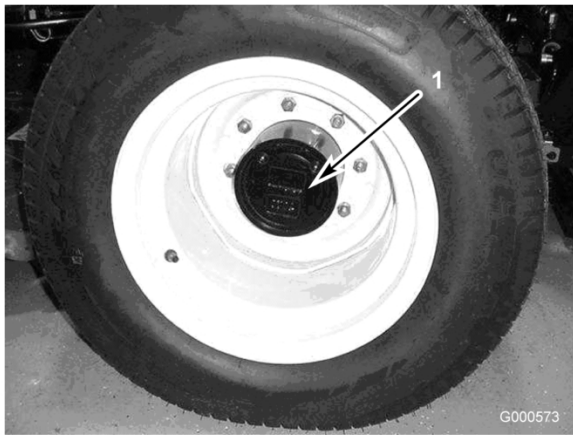

Figure 44
1. With the machine on a level surface, position the wheel so that the check/drain plug (Figure 44) is at either the 2 or 10 o'clock position.
2. Remove the plug on the planetary (Figure 44). Oil should be at the bottom of the check plug hole.